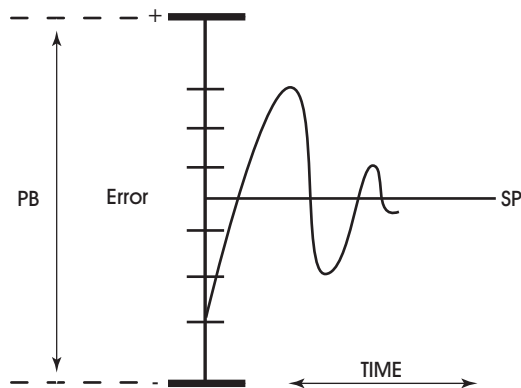

Figure 7-6: Proportional + Integral (PI) Control
The **(RP) Reset Period** property specifies the reset period (in seconds) over which the error history is accumulated. If **RP** = 10 seconds with a constant error of 2.0, then the error history would increase by 0.2 every second. In five seconds, the error history would be 1.0. At the end of ten seconds, the error history would be 2.0. Setting **RP** to 0 disables integral action making the loop proportional only. The longer **RP** is, the less effect it has on the control response. Figure 7-6 shows the response of a typical control loop when integral action is used in addition to proportional action (PI control). A value of 0 disables the reset period.
At the start-up of the loop or following a change in setpoint (see Figure 7-6), the error is fairly large. Proportional action causes the loop output to accelerate toward the setpoint. However by the time the loop response reaches the setpoint value, it has gained inertia from the preceding proportional action. This causes the loop to overshoot the setpoint. As the loop exceeds the setpoint moving toward its first peak, the error sum is accumulating. This slows down the acceleration, eventually causing the downturn in response.
As the error falls and then drops below the setpoint, the error sum will be reduced because now the error is in the opposite direction. The cycle continues in diminishing peaks until it finally converges at the setpoint as shown in Figure 7-6.